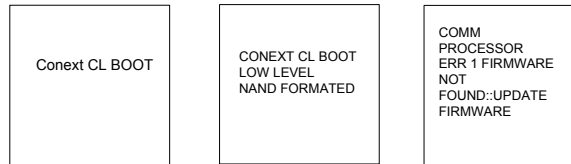

Figure 1-12 Low level format screen
- f) When Grid LED & PV LED start glowing steady, immediately press the "ESC" button 3 times and press the “HOME” button 1 time within 10 sec and confirm below mentioned LCD messages are appeared in sequence as shown in Figure 1-12 on page 1–10.